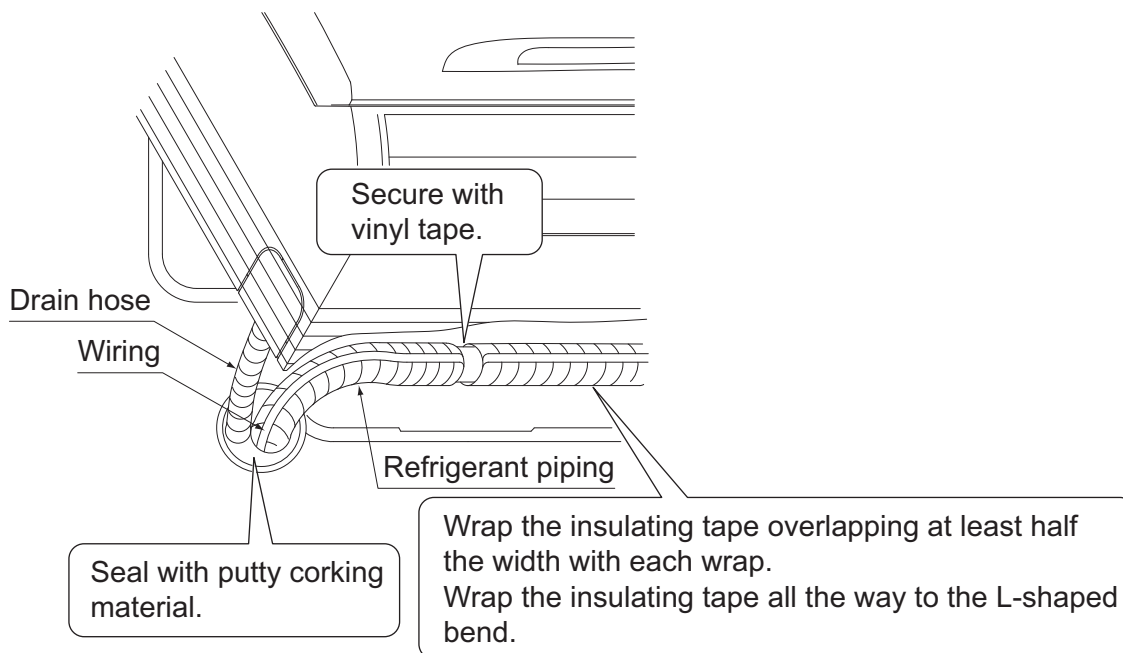

Fig. 12
(5) Pass the unit wiring, earth wiring, and remote controller wiring through the wiring guide and from the back to the front side of the indoor unit.
(6) Connect the piping. (Refer to “6. REFRIGERANT PIPING WORK” and Fig. 12)